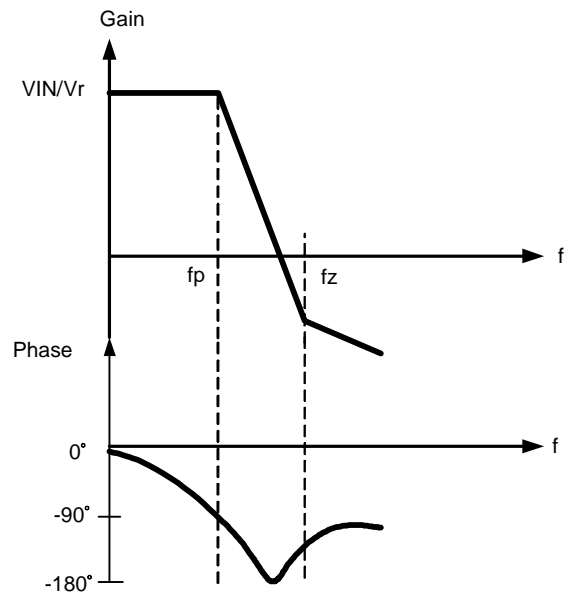

Figure 7. The Bode plot of Buck power stage
The transfer function of Equation (20) is a second order system and Bode plot is shown in Figure 7.
In Figure 7, the resonance of the output LC filter produces a double pole and -40dB/decade slop. The resonance frequency is expressed as follows: